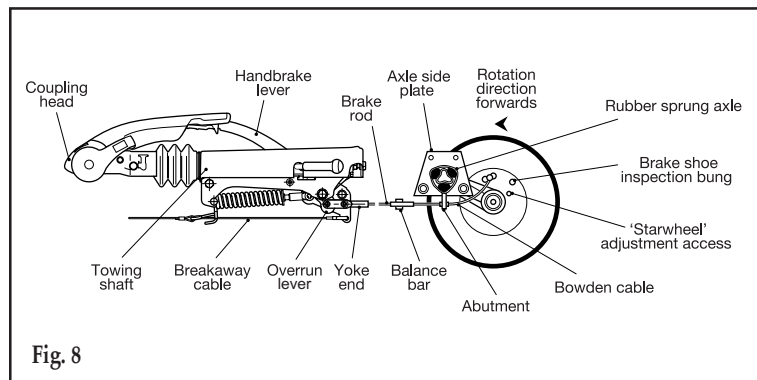
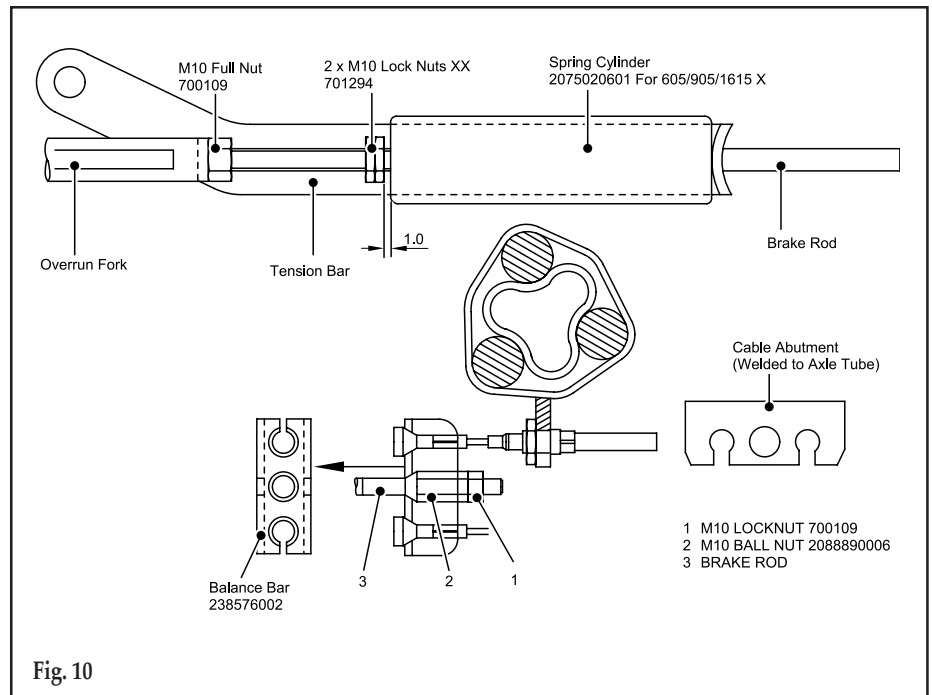

Fig. 8
Fig. 10
- i. Ensure the towing shaft with coupling heads is pulled fully forward (fig. 8).
- ii. Release the handbrake to the fully off position. If the handbrake will not go down the whole way because of the fairing or any other obstruction; then the fairing must be cut away and/or the obstruction removed to achieve this desired position. It will not be possible to set up the braking system properly when the handbrake is not in the fully off position (fig .8).
- iv. Remove the inner plastic bung from the backplate to expose the 'starwheel' adjuster access (figs. 8 & 9).
- vii. Check the adjustment at the end of the brake cable where it is secured to the abutment (bracket) welded to the centre of the axle. When the inner cable is pulled out it should extend between 5 and 8 mm (fig. 8). (On tandem axles a double abutment is fitted to the front axle only).
- x. Ensure the balance bar (compensation) is being pulled evenly. This bar (double on tandem axles) should always be paralleled with the axle tube when pulled (figs. 8 & 10). Adjust M8 lock and ball nuts, if necessary, to achieve correct parallel position (fig. 10).
Over adjustment to the long ball nut (Fig 10), could induce movement of the inner brake cable, reducing the effective clearance of the brake shoes. If the over run lever will not make contact, it is possible the two lock nuts, forward of the spring cylinder, are incorrectly adjusted. Loosen the nuts and adjust the brake rod as above (Figs 8 & 10).
xiii. Adjust the two locking nuts, forward of the spring cylinder (fig. 10), (on some chassis a single Nyloc nut is used) to give 1mm of clearance on the spring cylinder. This cylinder (the energy store for the handbrake operation) must be able to rotate only, not slide on the brake rod.
(See Fig. 10). If the overrun assembly is fitted with a gas strut handbrake then no spring cylinder is fitted - therefore ignore this paragraph).